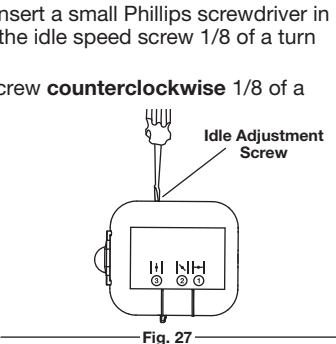

Fig. 28
1. Remove the 8 engine cover screws with the appropriate tool (Fig. 28), then remove the cover.
NOTE: Make sure that the screws are reinstalled into their original holes (Fig. 28).